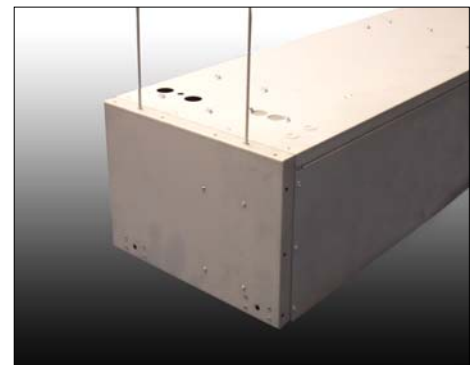

Fig 2
Step 2 Fix *M10* or *3/8 UNC* threaded rods (not supplied) through the 2 holes at each end in the top casing (see Fig 2). Feed the rods through the casing and attach to fixing brackets near the bottom of the unit (see Fig 3, looking up into the air curtain). Use *M10* or *3/8 UNC* lock-nuts either side of the fixing bracket to secure the hanging rod.